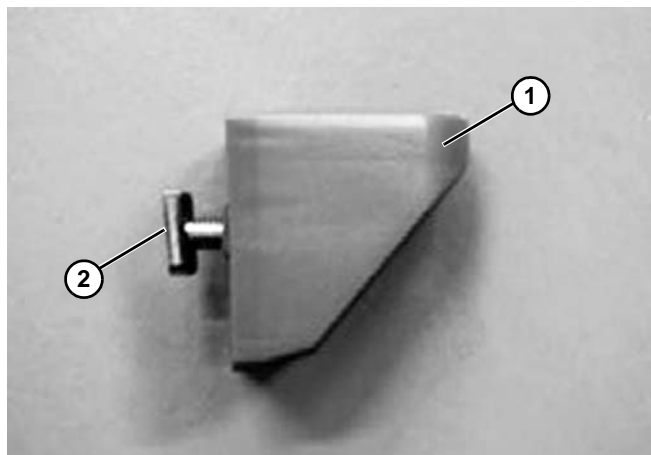

Figure 77
1. Prepare the heavy-duty guide rail bracket (**Figure 77, item 1**) with T-bolt (**Figure 77, item 2**).